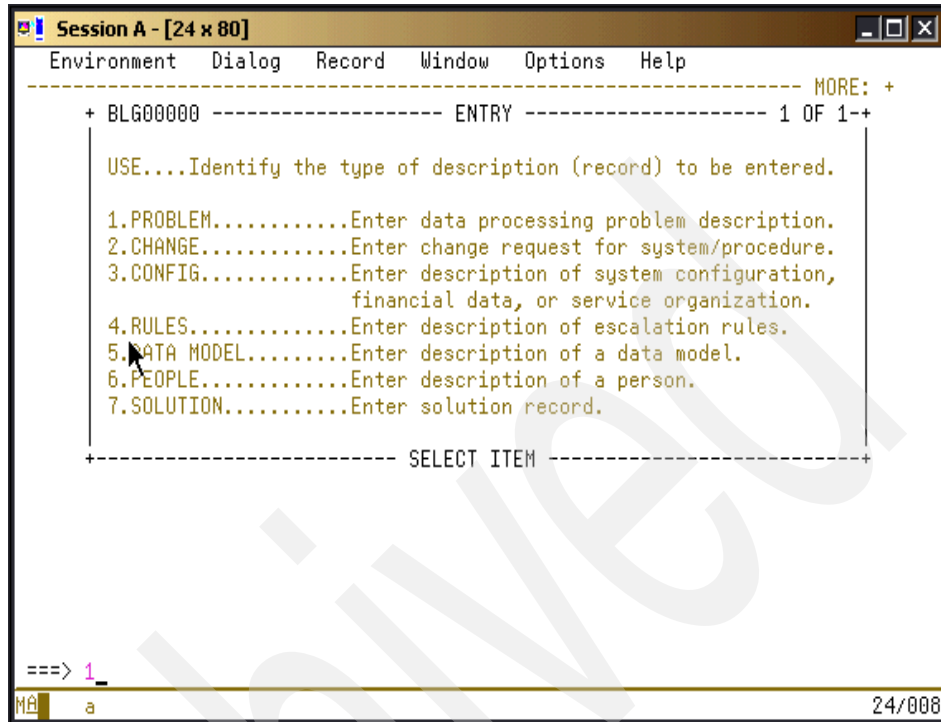

Figure 2-18 Problem entry panel
6. Enter the options and data as though you are creating a problem record manually. Select option 5 - **ENTRY** and press Enter. The ENTRY panel shown in Figure 2-18 on page 72 displays.